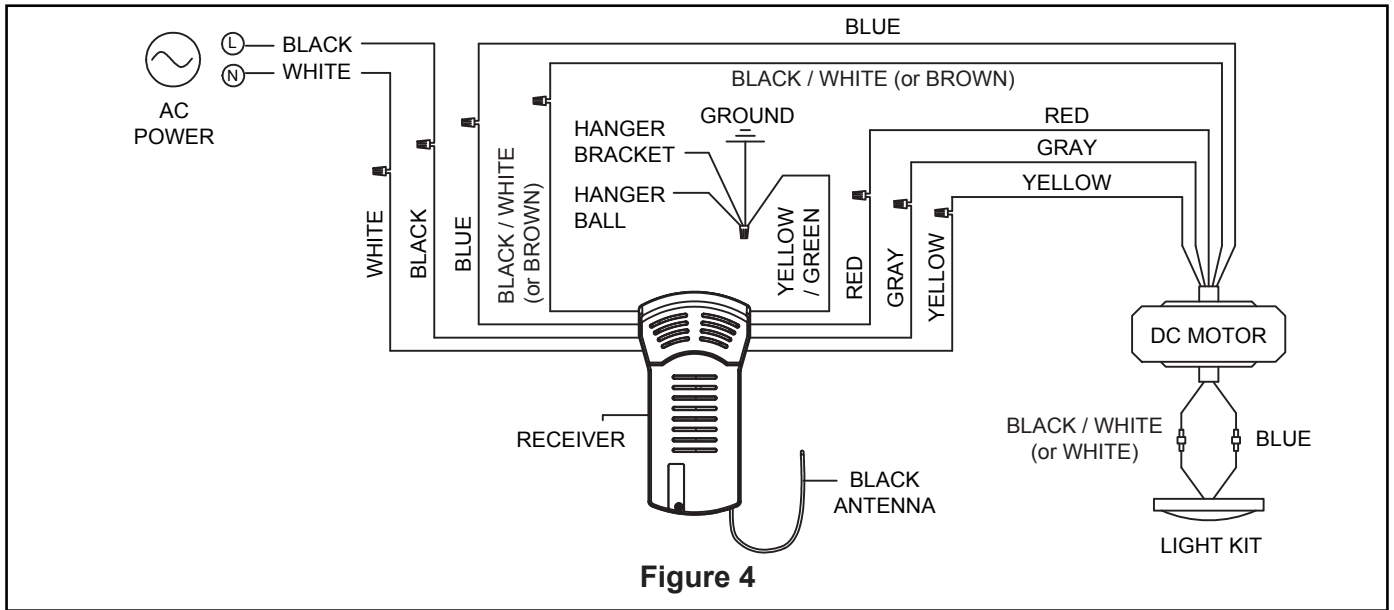

Figure 4
3. Connect wires using connectors as shown in Figure 4.